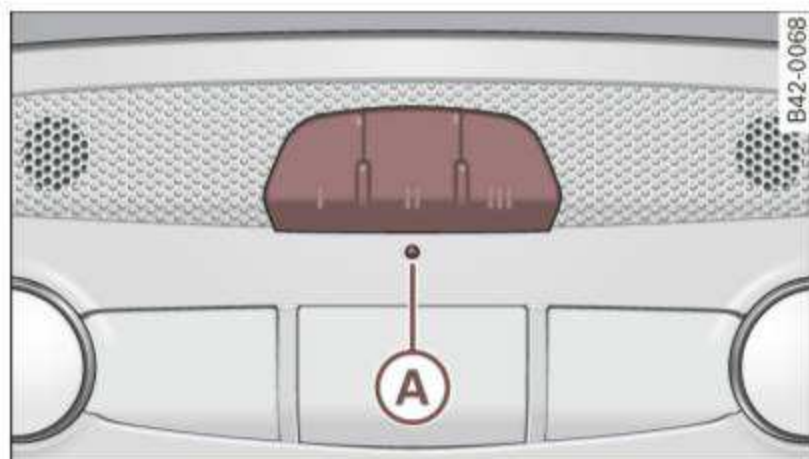

Fig. 81 Overhead console: HomeLink® keypad
4. Press and hold the two outside HomeLink® buttons (I) and (III) for approximately 20 seconds until indicator light (A) ⇒ fig. 81 begins to flash. Then release both buttons. Do not hold the buttons for longer than 30 seconds.
5. Press and hold the HomeLink® button (I), (II) or (III) until the indicator light (A) starts flashing *slowly*. Release the button.
10. Press and hold the trained HomeLink® button and observe the indicator light (A) ⇒ page 97, fig. 81.